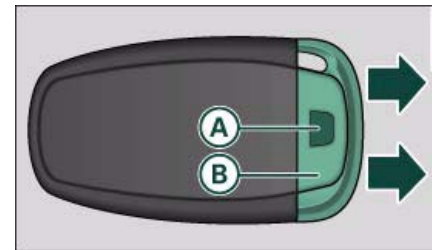

Fig. 34 Remote control key: Removing the emergency key
- Press the release button (A) ⇒ fig. 34.
- Pull the emergency key (B) out of the remote control key.